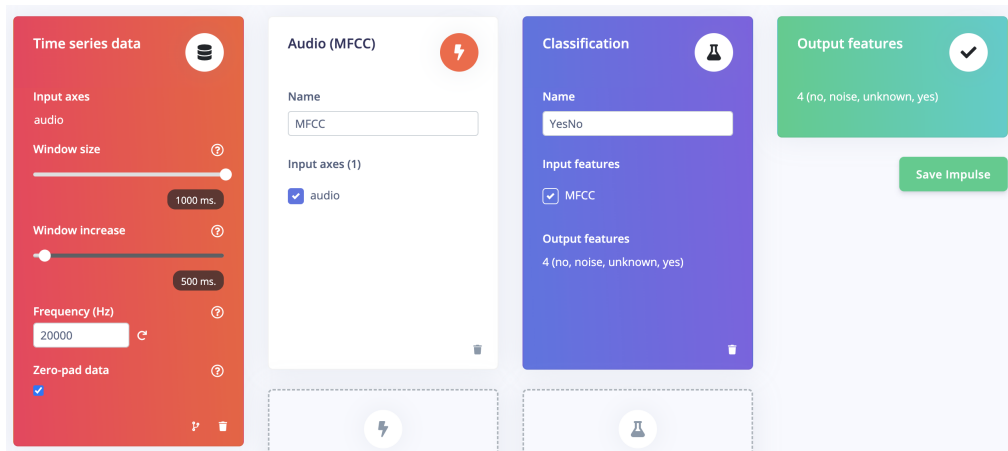

Figure 9.3: The impulse setup should look similar to this. Note the frequency is 20kHz.
15. The impulse should look like what is shown in Figure 9.3